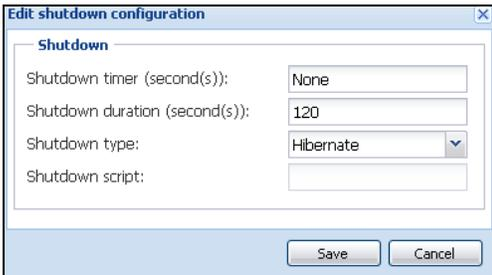

Figure 118. Edit Shutdown Configuration Dialog Box
- The IPM default configuration is available from **Settings > Shutdown > Edit Shutdown Configuration** (see Figure 118).